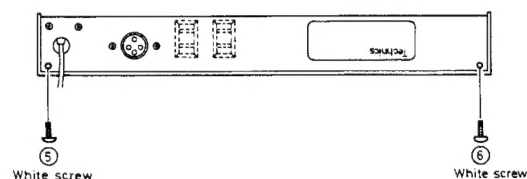

Fig. 7
4. Remove 12 setscrews (⑦ ~ ⑱), in Fig. 7) which secure printed circuit board, chassis and power supply box.